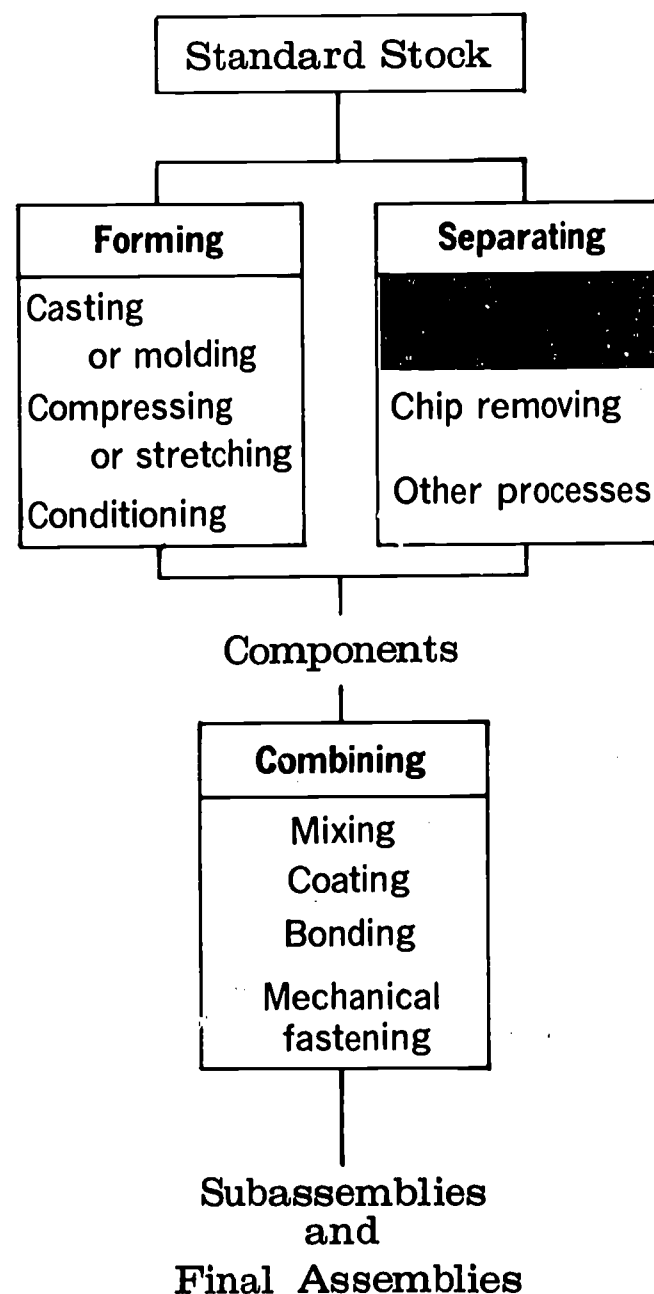

Fig. 54-1. Shearing, in the shaded area above, is discussed in this reading.
There are three major ways to separate standard stock. They are (1) *shearing*, (2) *chip removing*, and (3) *other processes*. In this reading, you will learn more about how *shearing* is done, Fig. 54-1.